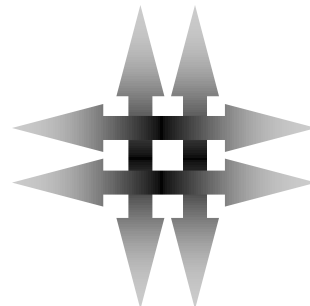

Fig. 4-3
- Run Smart Care® TWIN back and forth as you would a vacuum, or in straight rows as you would a lawn mower. For heavily soiled areas, run machine in 2 different directions (North/South then East/West). Fig. 4-3 *Continuous passes over the same area with any brush may damage the carpet fibers. Use with caution*